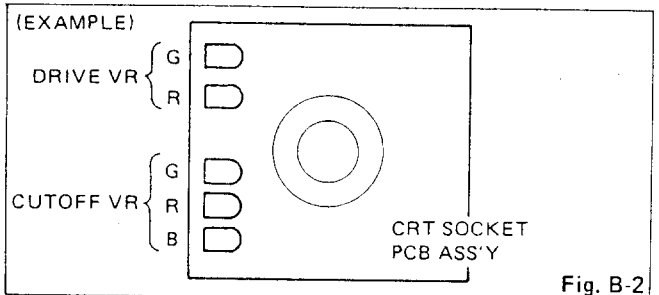

Fig. B-2
4. Turn the green cut-off control to maximum and the red and blue cut-off controls to minimum. Then adjust the screen control so that the green band can be seen best. (Fig. B-2, 4).
2. Set the red and green drive controls for their mechanical center (Fig. B-2).